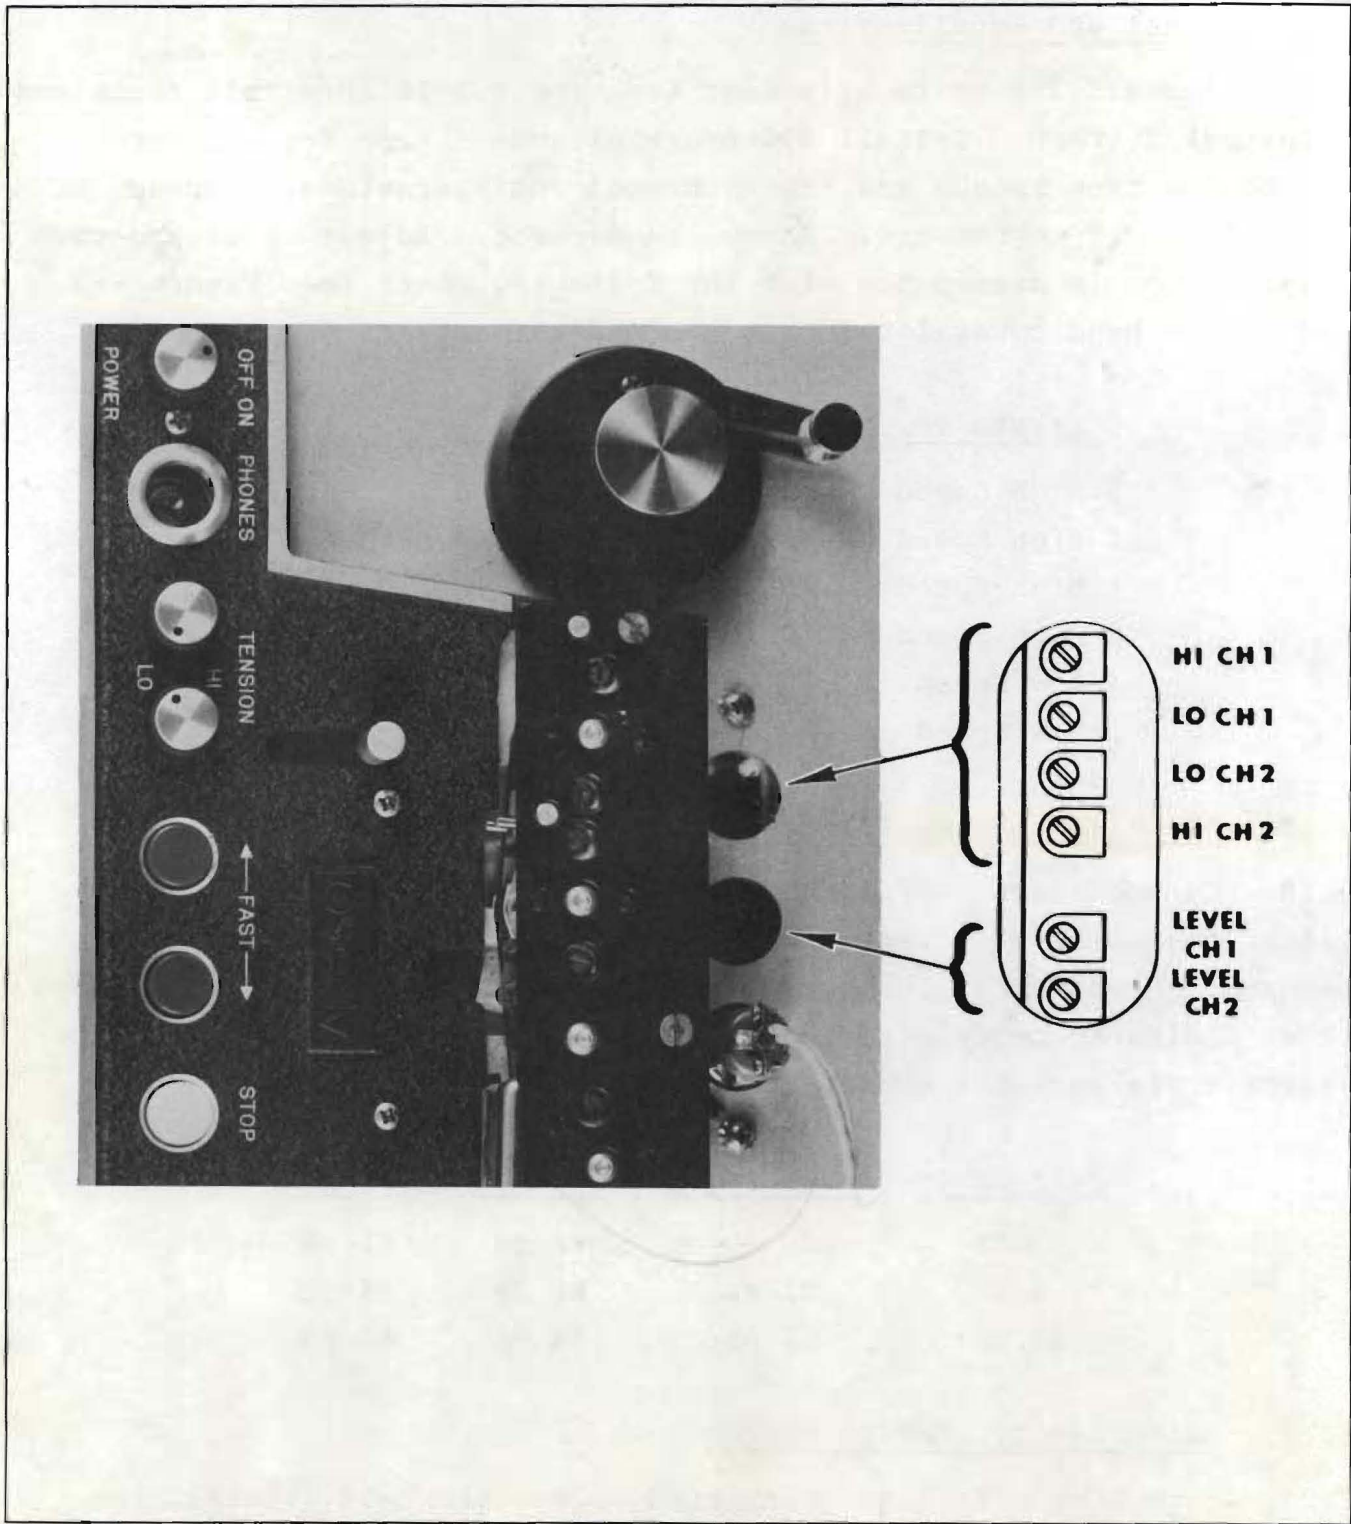

Figure 6-3. Equalization and Level Adjustment Points
6.16 Install 250 nWb/m alignment tape for 7.5-15 in/s full track and 2-channel 2 track. Install 200 nWb/m alignment tape for all other reproducer tape speeds and track-channel configurations. Connect ACVM to *LINE OUTPUT* connectors. Remove head cover. Adjust level and then equalization in accordance with the following chart (see Figure 6-3 and inside head cover for location of adjustments).